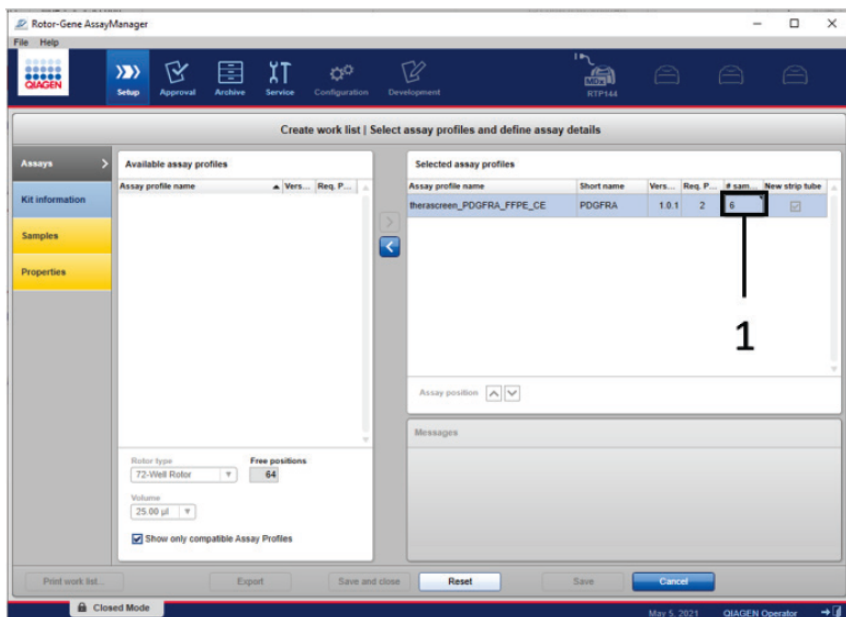

Figure 4. Create work list main window. 1 – Enter the number of samples in the Selected assay profiles section.
17. In the Selected assay profiles section, enter the number of test samples to be tested excluding the number of run controls (1) (Figure 4)